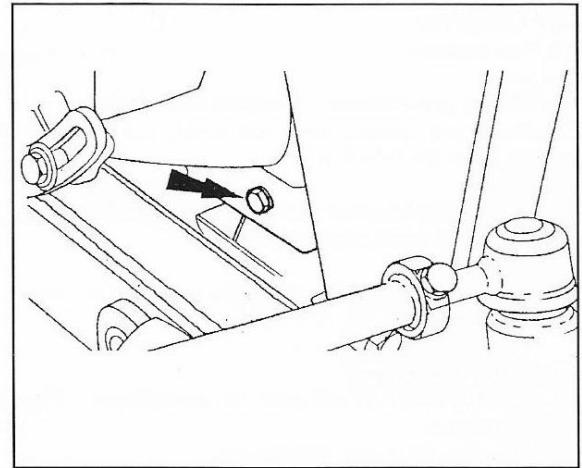

Fig. 84
2. Remove the drain plug at the bottom of the radiator (Fig. 84).